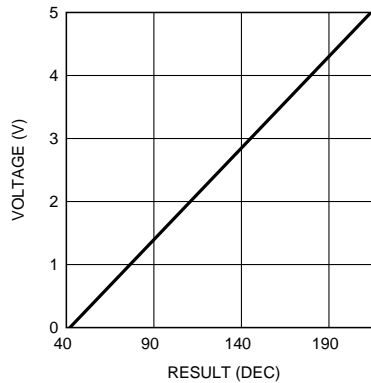

Figure 30.
- This is used to store the LED test result. Read-only register. LED test ADC least significant bit corresponds to 30 mV. The measured voltage V (typ.) is calculated as follows: $V = (\text{RESULT}(\text{DEC}) \times 0.03 - 1.478 \text{ V})$. For example, if the result is 10100110 = 166(DEC), the measured voltage is 3.50V (typ.). See Figure 30 below.